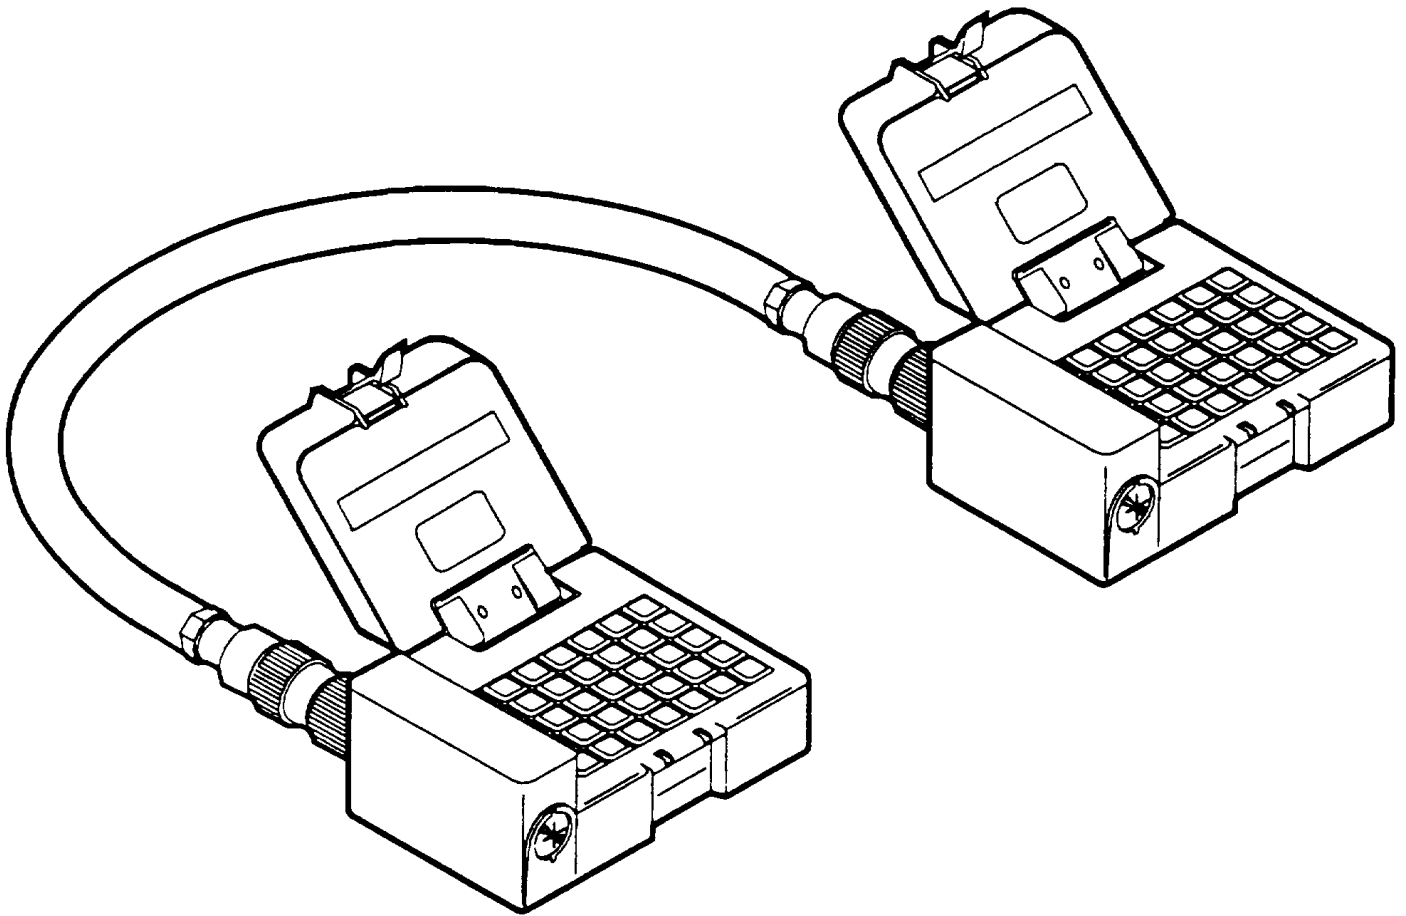

Figure 2-5. Transfer of SOI Data from ANCD to ANCD
- d. Use of ANCD to Transfer SOI Data from ANCD to ANCD (see Figure 2-5 and Table 2-2).